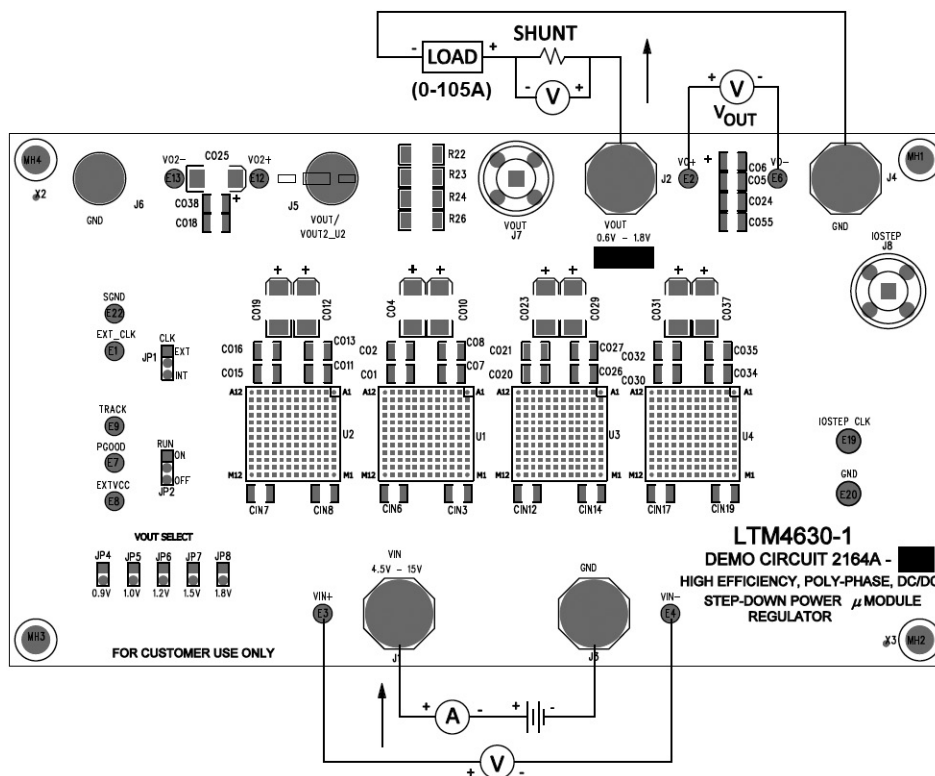

Figure 2. Test Setup of DC2164A-B
Demonstration circuit 2164A-B is easy to set up to evaluate the performance of PolyPhase operation of the LTM4630EY-1. Due to the high input/output current, user should select the proper input supply/load/cable which can sustain the full load operation. It's recommended to pull load current from J2 and J4. The load current pulled from J5 and J6 shouldn't exceed 18A. Please refer to Figure 2 for proper measurement setup and follow the procedure below:
- With power off, connect the input power supply, load and meters as shown in Figure 2. Preset the load to 0A and VIN supply to 12V.